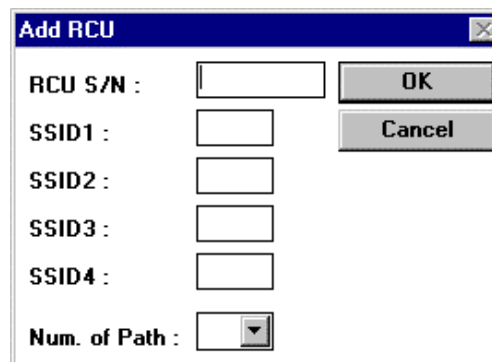
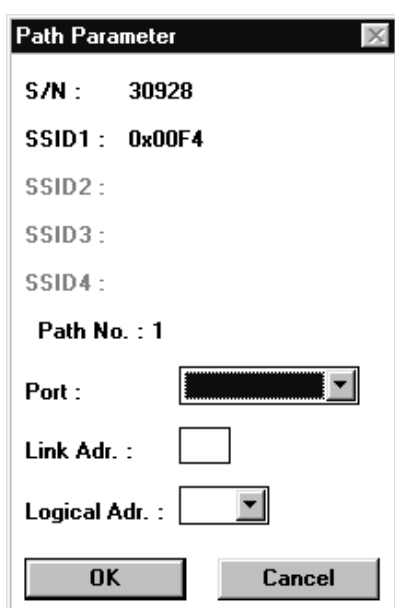

Figure 3.11 Adding the RCUs
Figure 3.12 Entering the RCU Path Parameters
7. Add the desired RCU(s) to the current MCU CU image using the Add RCU panel (see Figure 3.11) and Path Parameter panel (see Figure 3.12) (see section 4.3.1 for instructions):